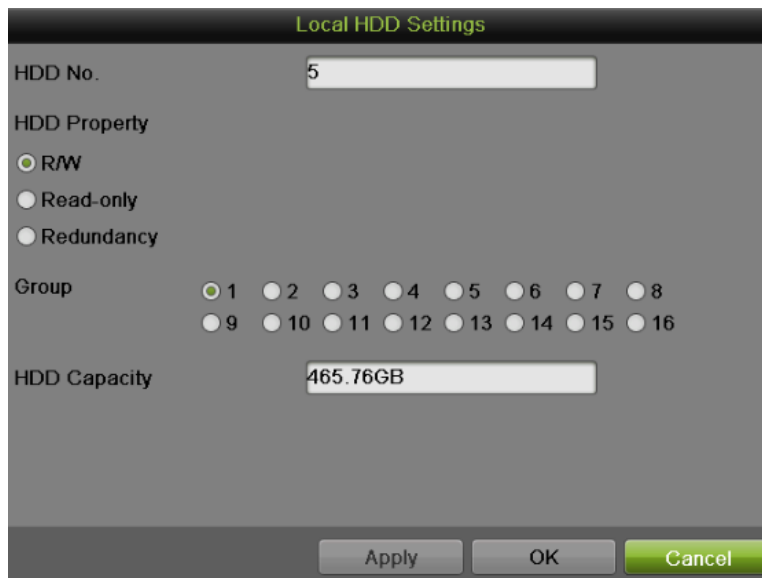

Figure 200 Local HDD Settings
- 1) Select a HDD and click  to pop up the Local HDD Settings menu as shown in Figure 200.